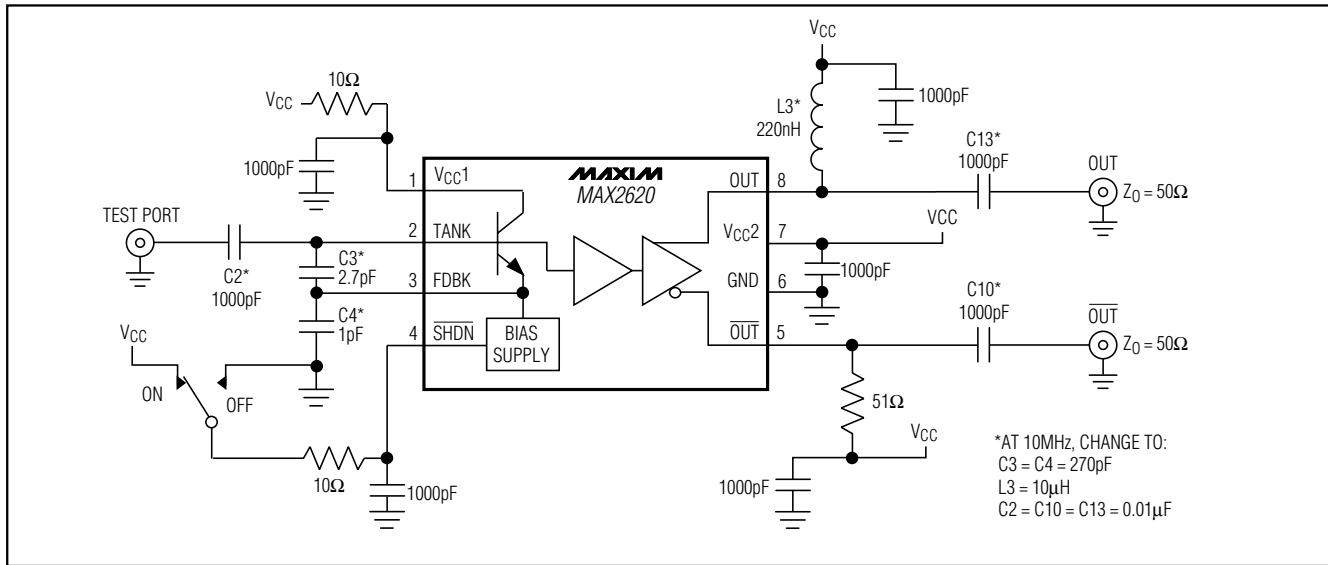
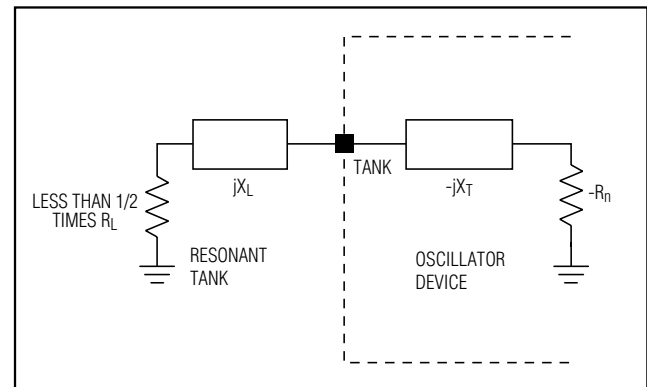

Figure 1. 900MHz Test Circuit
Figure 2. Simplified Oscillator Circuit Model
(Test Circuit of Figure 1, V_{CC} = +3.0V, $\overline{\text{SHDN}}$ = V_{CC}, Z_{LOAD} = Z_{SOURCE} = 50Ω, P_{IN} = -20dBm (50Ω), f_{TEST} = 900MHz, T_A = +25°C, unless otherwise noted.)
(Test Circuit of Figure 1, $V_{CC} = +3.0V$, $\overline{SHDN} = V_{CC}$, $Z_{LOAD} = Z_{SOURCE} = 50\Omega$, $P_{IN} = -20dBm/50\Omega$, $f_{TEST} = 900MHz$, $T_A = +25^\circ C$, unless otherwise noted.)
*SEE FIGURE 1
At the frequency of interest, the MAX2620 portion of Figure 2 shows the one-port circuit model for the TANK pin (test port in Figure 1).
For the circuit to oscillate at a desired frequency, the resonant tank circuit connected to TANK must present an impedance that is a complement to the network (Figure 2). This resonant tank circuit must have a positive real component that is a maximum of one-half the magnitude of the negative real part of the oscillator device, as well as a reactive component that is opposite in sign to the reactive component of the oscillator device.
Both of the MAX2620's outputs (OUT and $\overline{\text{OUT}}$) are open collectors. They need to be pulled up to the supply by external components. An easy approach to this pull-up is a resistor. A 50Ω resistor value would inherently match the output to a 50Ω system. The *Typical Operating Circuit* shows $\overline{\text{OUT}}$ configured this way. Alternatively, a choke pullup (Figure 1), yields greater output power (approximately -8dBm at 900MHz).